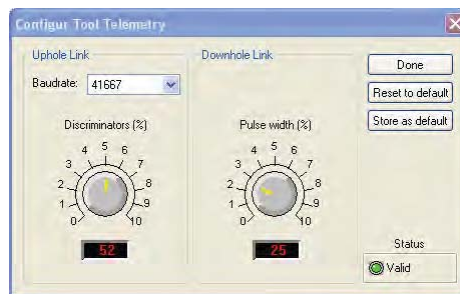

Figure 6-3 Tool communication settings - ALTLog
4. In the **Communication** panel, select **Settings**. Check **baud rate** is set to **41666** and **communication status** is **valid** (Figure 6-3 or Figure 6-4).
2. The following message will appear (Figure 6-3). Click **Yes** to validate your choice.